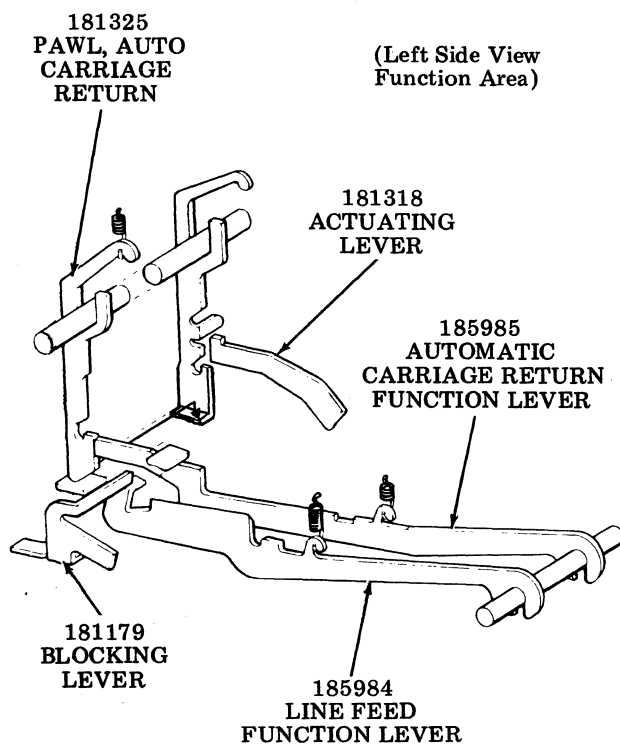

Figure 11 - 185983 Modification Kit to Provide Carriage Return on Line Feed
2.46 In operation, the modified unit performs the standard line feed function, only, the line feed lever now activates the carriage return and line feed functions simultaneously (see Figure 11).